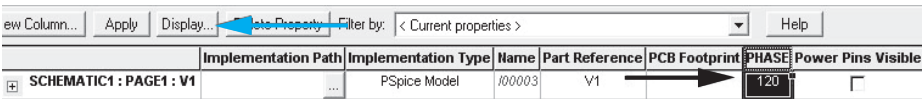

FIGURE 6.59 Set the phase angle.
- 2. To set the phase angle of the voltage source, go to “edit properties” of voltage source by right-clicking on it, or double-click on the voltage source. A window similar to Figure 6.59 will appear.
Add the sinusoidal voltage source, VSIN, into the PSpice schematic, with VOFF = 0, VAMPL set to 110, and FREQ set to 63.662. The phase angle can be set by going to the “edit properties” of VSIN (see Figure 6.59).
Add the sinusoidal voltage source, VSIN, into the PSpice schematic, with VOFF = 0, VAMPL set to 110 and FREQ set to 63.662. The phase angle can be set by going to the “edit properties” of VSIN (see Figure 6.59).